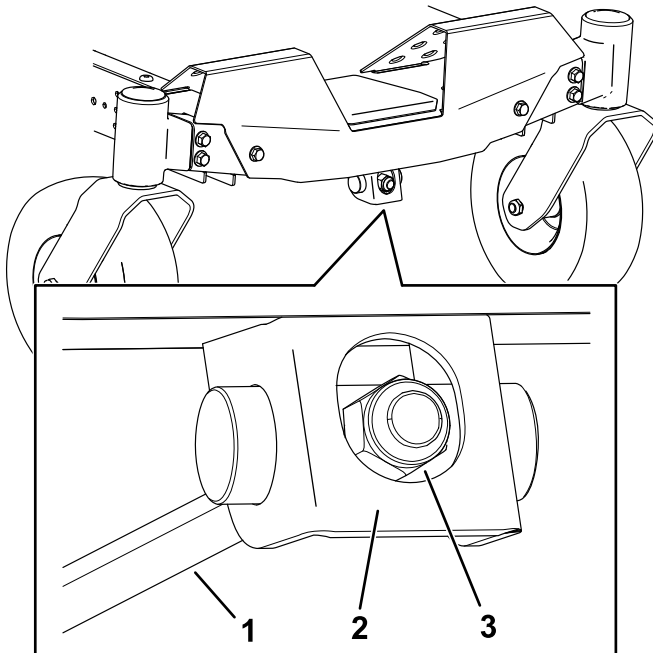

**Figure 70**
3. Carefully rotate the blades so they are facing front to rear (Figure 69 and Figure 70).
4. Measure from the tip of the front blade to the flat surface and the tip of the rear blade to the flat surface (Figure 69 and Figure 70). If the front blade tip is not 1/16-5/16 inch (1.6-7.9 mm) lower than the rear blade tip, adjust the front locknut.
7. After adjustment, check the front-to-rear slope again. Continue adjusting the nut until the front blade tip is 1/16-5/16 inch (1.6-7.9 mm) lower than the rear blade tip (Figure 69 and Figure 70).